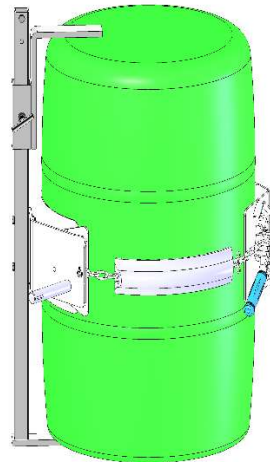

Figure 2.1
1. **Stainless Steel Bracket Assembly Kit 4556SS-P** is **required** to handle a RIMLESS plastic drum (figure 2.1), and is also recommended for a fiber drum. The Bracket adjusts for a 31" to 39" (79 to 99 cm) tall drum. You can also handle a rimmed drum with the Bracket installed.